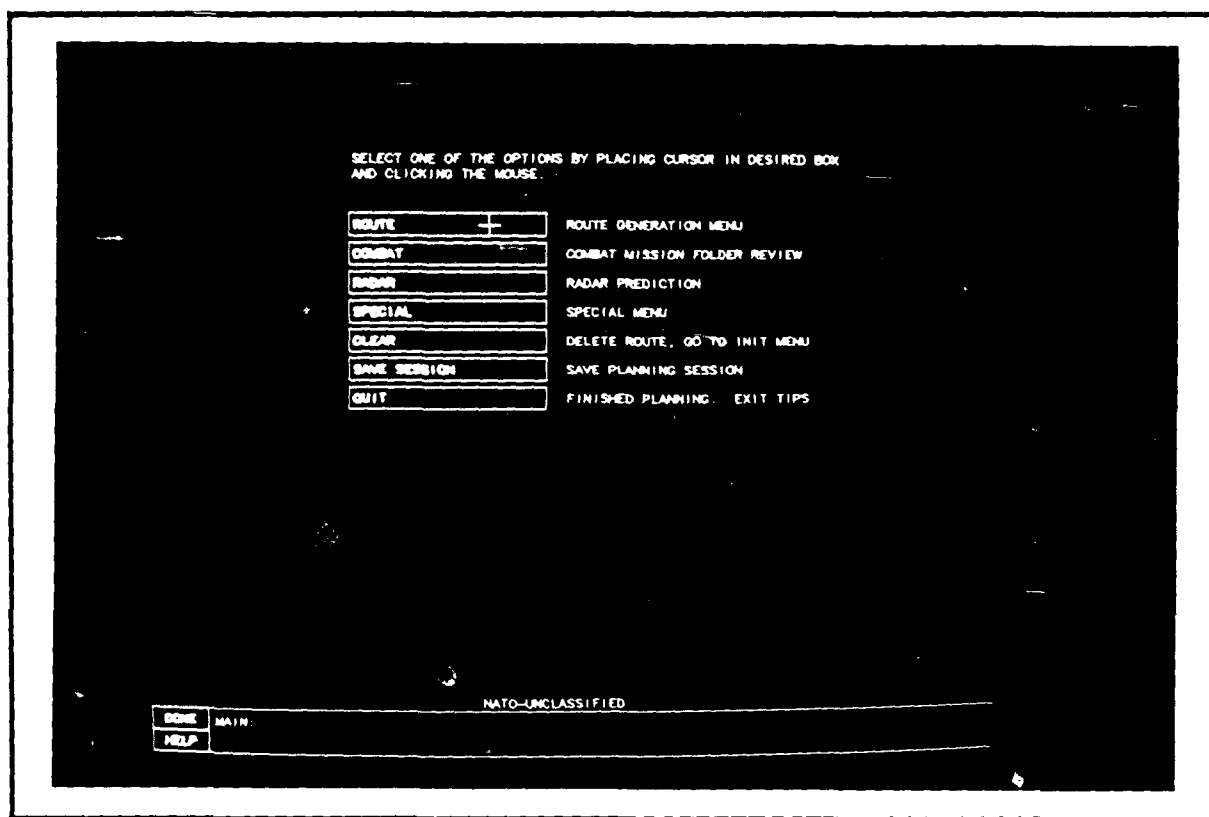

Figure II.1-3 Main Menu
6. We are now finished with the INIT menu. To proceed, position the cursor in the DONE command box and click the mouse. The MAIN menu is then displayed (Figure II.1-3).